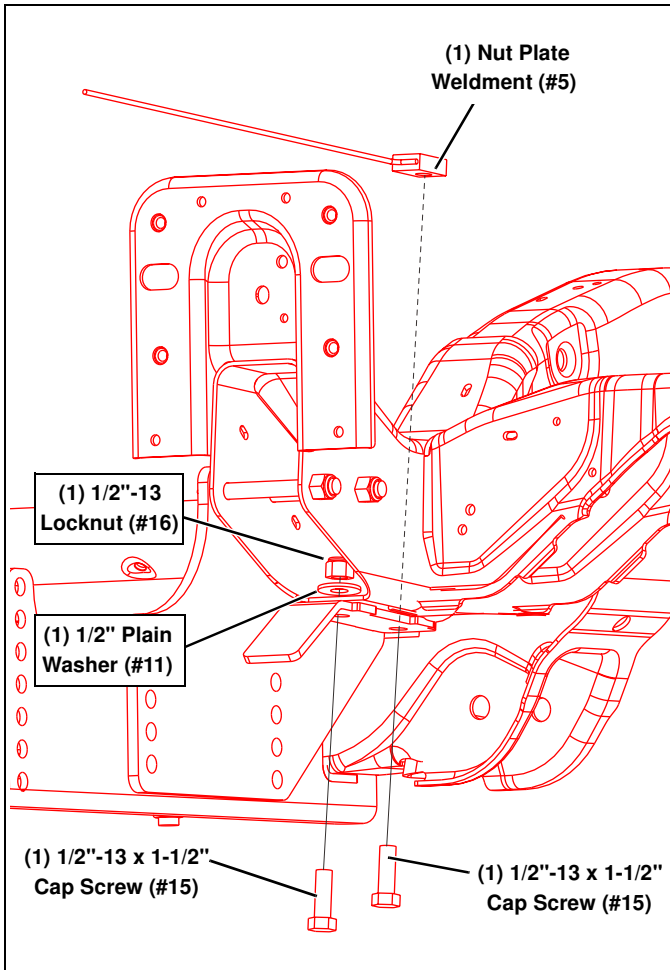

Figure 6
8. Fasten the rear hole with (1) 1/2"-13 Nut Plate Weldment (#5) and (1) 1/2"-13 x 1-1/2" Cap Screw (#15). Use (1) 1/2"-13 x 1-1/2" Cap Screw (#15), (1) 1/2" Plain Washer (#11), and (1) 1/2"-13 Locknut (#16) for fastening the front drilled hole. (See Figure 6.)